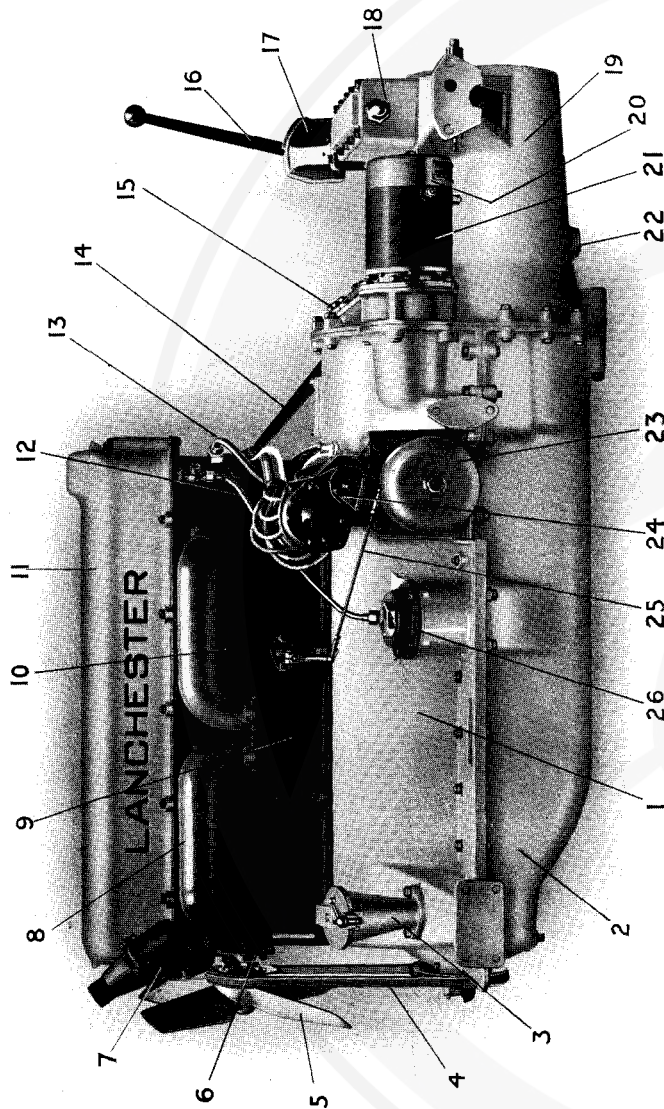

Fig. 2. Power Unit
**Crankcase.** Both the crankcase and the oil base are of deep section combining to form a stiff girder-like construction, the strength of which is greatly increased by employing wide flanged crankcase joints and a large number of bolts securing them to each other. The engine is supported in the chassis by bearer brackets cast integral with the crankcase and gear box. Mounted on the near side bracket at the forward end of the crankcase is an oil filler of large diameter Fig. 2; no tun-dish is required for filling, and the oil filler lid being hinged and secured with a wing nut, no tools are necessary to open it. Towards the rear of the crankcase on the nearside is situated an oil filter Fig. 2, the gauze of which can be removed for cleaning or replacement without loss of oil. An overflow cock indicating the correct oil level (also for use in the event of over filling) is provided on the offside of the engine. For lubrication instructions see page 37.
*Description of fig. 2.*
under pressure to the main bearings, connecting rod heads and small ends, pistons, camshaft worm drive and bearings. In the base of the oil sump, on the suction side of the pump, is a copper gauze strainer, and on the pressure side of the pump is the oil filter Fig. 2, which is removable without loss of oil or the necessity of emptying the oil sump. In order to maintain a constant oil pressure a spring loaded relief valve is fitted, which allows excess oil to drain back into the sump. The lubrication of the engine is entirely automatic and requires no attention other than the usual periodic re-filling, and removal of stale oil after 5,000 to 10,000 miles running, for which a drain cock is provided in the base of the oil sump, controlled by the same lever that operates the oil overflow level cock. The oil filler Fig. 2 at the front end of the crankcase is provided with a detachable copper gauze strainer. The filler also serves as a crankcase vent.
The Dynamo Fig. 2, situated at the rear end of the crankcase on the nearside, is driven from the cross shaft through the medium of a Rhinoceros hide coupling of the Oldham type.
*The Electric Starter* Fig. 2 is mounted on the flywheel casing and lies horizontally parallel to the gear box. The commutator cover is divided so as to make it readily detachable, giving access to the brushes and commutator for cleaning or adjustment. The starter pinion is of the bendix type and automatically engages with a gear ring mounted on the fly-wheel when the armature is set in motion by operating the push-in switch on the instrument board.